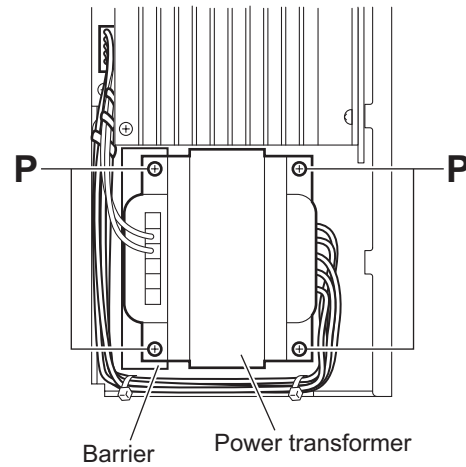

Fig.15
- (2) Remove the four screws **P** attaching the power transformer, and take out the power transformer from the amplifier assembly. (See fig.15)
- When attaching the power transformer, attach the screws **P** with the barrier. (See fig.15)